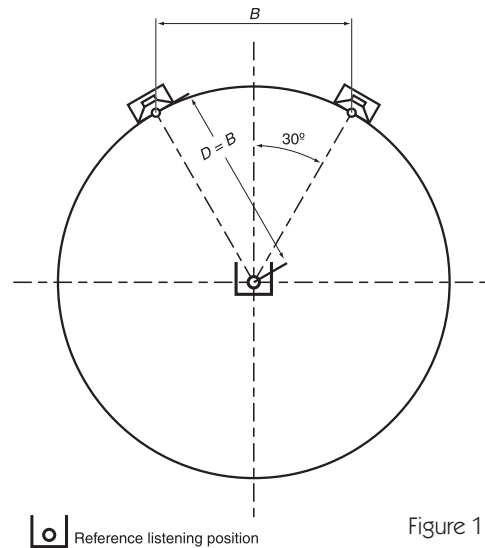

Figure 1
3. MediaDesk is compatible with XLR and RCA input connections. If you need to connect MediaDesk to a sound card or need more information on connecting your system please see page 6. You will need a total of two (2) XLR or RCA inputs cables for a stereo monitoring configuration (not supplied). For more information on connecting your system, please see page 6 [2.1 System Signal Connection and Level Settings].
6. Next, place the MediaDesk SATs into position. The recommended position for the monitors is based on an ITU standard and sets the speakers at 60 degrees from the listener, forming an equilateral triangle (a triangle with equal sides) - **See Figure 1**. Fortunately, this setup eliminates most of the math and is easily simplified to the following guidelines: If you want to sit 1 meter (39.37 inches) from the speakers, place the speakers 1 meter apart. If you want to sit 2 ft from the speakers, place the speakers 2 ft apart. Etc. The monitors can be positioned on a console, desk, on stands, etc. Ideally the MediaDesk SAT should be at seated ear height. If this is not possible, tilting the cabinet at the listening area can improve high-frequency coverage. For more information about placement see page 15 [MediaDesk SAT mounting and placement options].